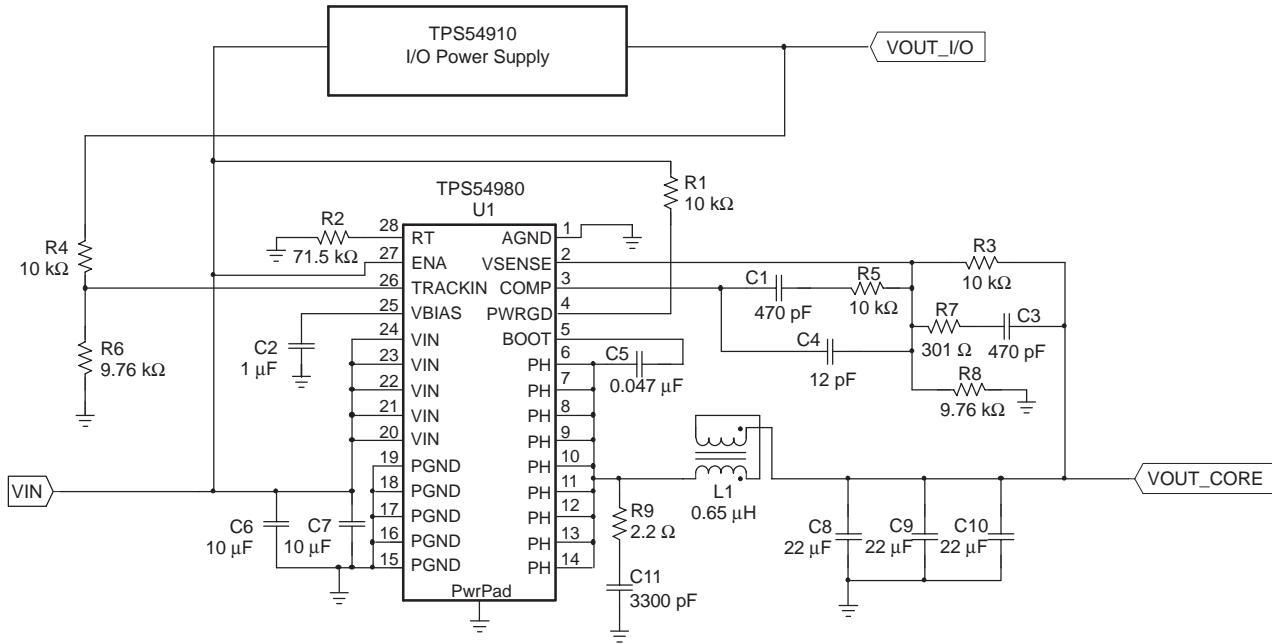

Figure 9. Application Circuit
(1) Specified by design
(2) Static resistive loads only
(3) Specified by the circuit used in Figure 9
(4) Matched MOSFETs low-side r_{DS(on)} production tested, high-side r_{DS(on)} specified by design
Figure 9 shows the schematic diagram for a typical TPS54980 application. The TPS54980 (U1) can provide greater than 9 A of output current at a nominal output voltage of 1.8 V. For proper thermal performance, the exposed thermal PowerPAD underneath the integrated circuit package must be soldered to the printed-circuit